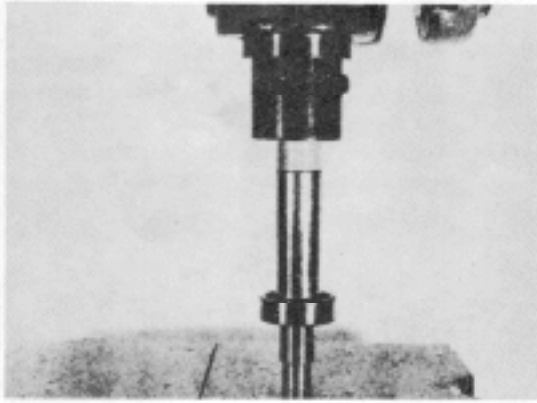

Figure 16G-40. Pressing Tachometer Gear on Shaft
2. Install first oil seal into drive cover with lip toward outside of pump, and press second oil seal into drive cover with sealing lip toward inside of fuel pump. Seals must be spaced so the "telltale" hole is not covered, Figure 16G-41.